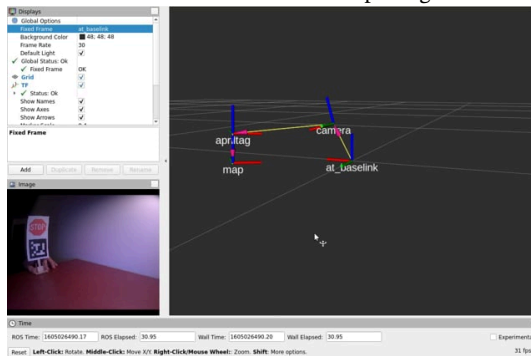

Figure 4.7. Example video deliverable for the AT localization package with rectified images
- Instead of directly using compressed images, rectify them before passing them to the Apriltag detector. You will see that this significantly improves the accuracy of the detector but at the cost of significant delay. Provide a screen recording similar to this Figure 4.7 where you move the Apriltag in front of the robot from one side of the FOV to the other. Make sure that the video contains the camera images as well as the TF tree in Rviz. You should observe that the `map` and `baselink` are now in the same plane (or at least much closer to it than with compressed images).